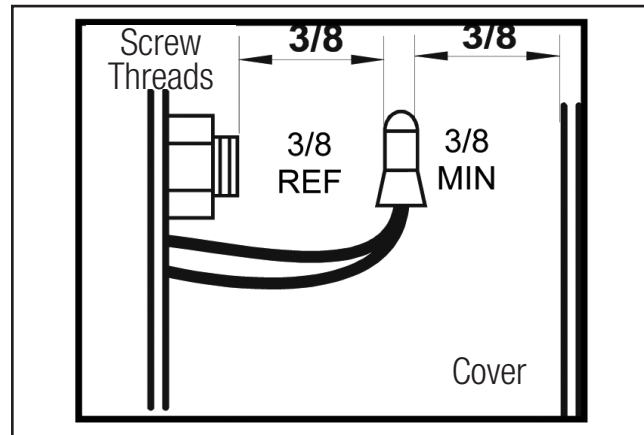

Figure 16-1
- After making all connections, wire leads should be bent to clear both the brush post screw thread and the inside of the slip ring cover. See **Figure 16-1**.